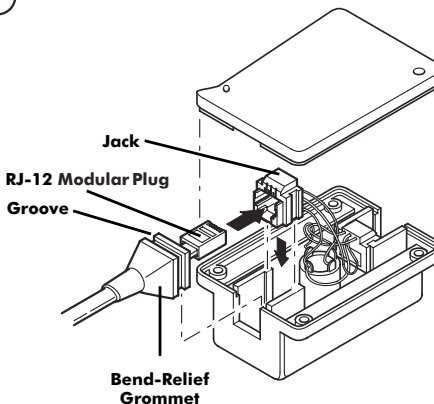

FIGURE 12:
- Lift the modular jack slightly out of the HM-10 and insert the RJ-12 Modular Plug into the jack in the HM-10 as shown in Figure 12.
12. Insert the Bend-Relief Grommet into the HM-10 so the groove in the grommet is over the side case of the HM-10 (Figure 12).